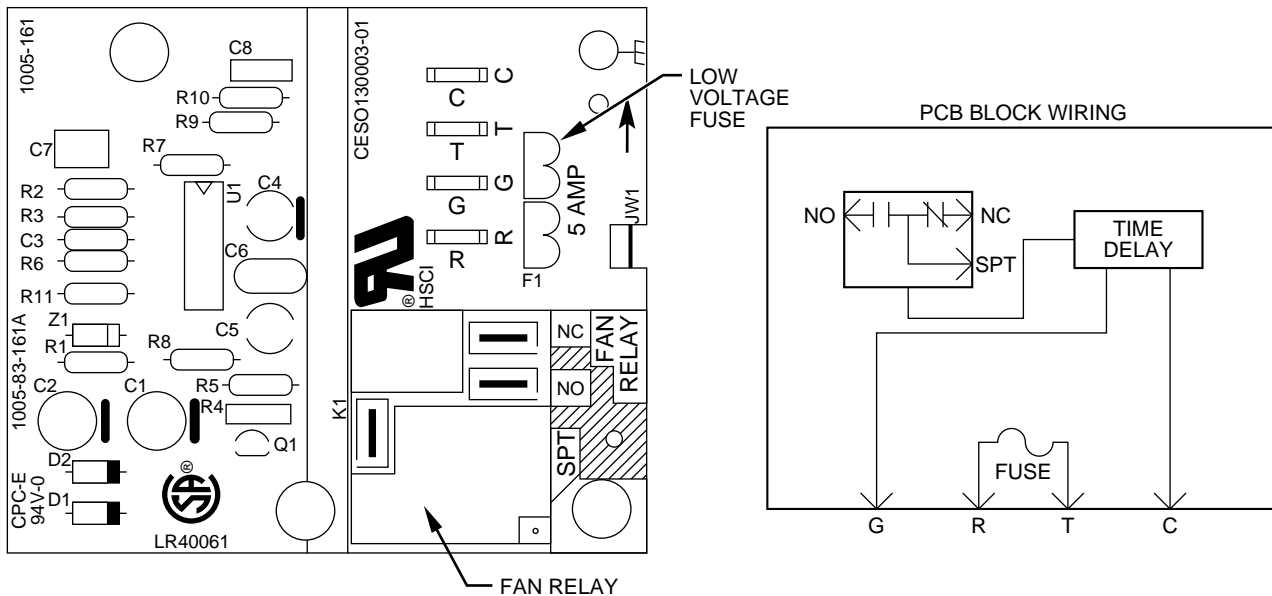

Fig. 3—Fan Coil Printed-Circuit Board
Layout of the actual PCB is depicted in Fig. 3.
2. Check output voltage of transformer secondary side R (red) and C (brown). Be sure transformer output is between 18 and 30 vac. If transformer output is incorrect and transformer is receiving correct input voltage (208v or 230v), then transformer needs to be replaced with recommended transformer. If no problem exists with transformer secondary, proceed to items 3 and 4.
3. Check low-voltage fuse shown in Fig. 3. If fuse is blown, replace it. The transformer cannot supply power to board with fuse blown or loose. If fuse blows when unit has power applied to it, the system most likely has 1 of the following problems: